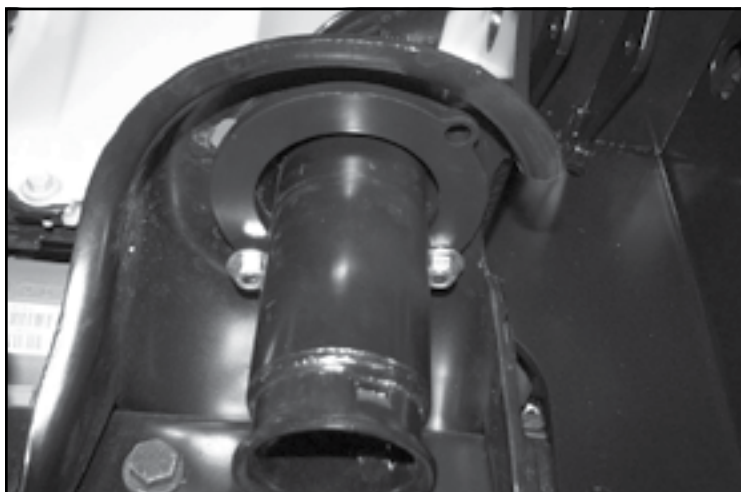

FIGURE 14 - STEP 12
12. Remove the 3/8" nut from the bottom of the coil bucket and install the FT50698 (Spacer) on the bottom side of the factory coil bucket using the 3/8" nut you just removed and another 3/8" x 1-1/4" bolt and hardware on the rear factory hole. **NOTE: Use one 3/8" USS washer on the top due to the factory hole diameter. SEE FIGURE 14**